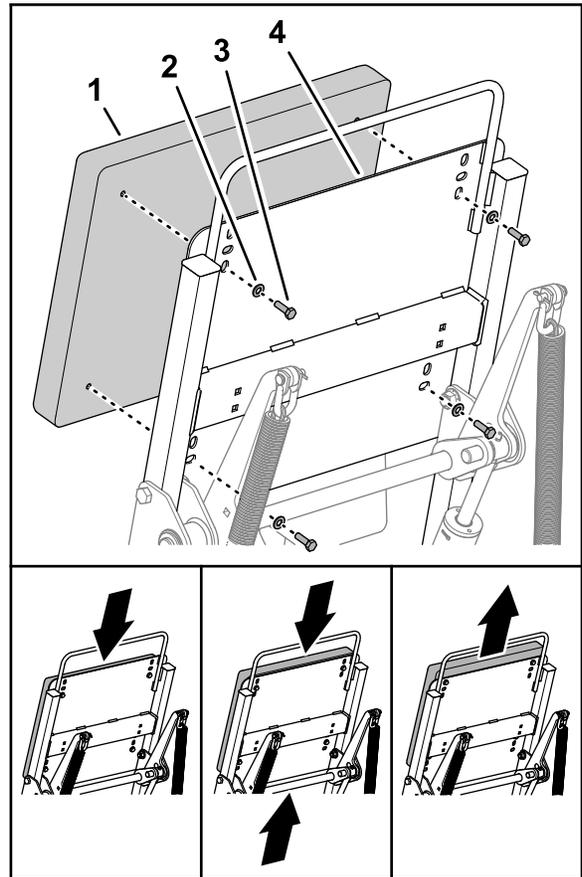

Figure 25
1. Remove the 4 bolts and 4 washers that secure the backrest pad to the mounting plate (Figure 25).